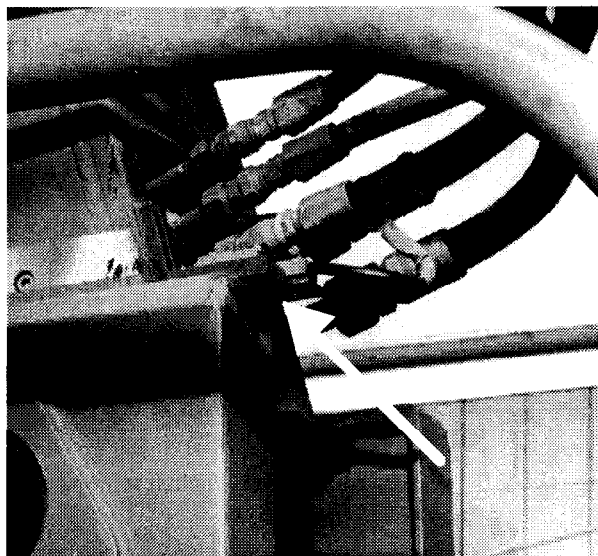

Figure 1 - Location of Proximity Switch and Actuator Magnet
- a. moves the Proximity Switch and Actuator Magnet from the current location to below the winch on the rear left face of the hook arm as shown in Figure 1; and